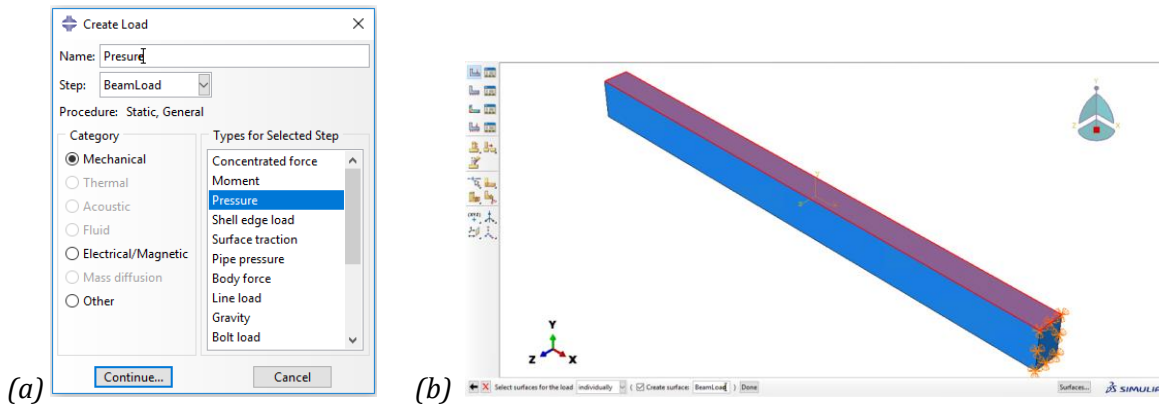

Figure 1-21 – (a) The Create Load dialog box and (b) the prompt area.
1. In the **Model Tree**, double-click **Loads** to create a new load in the model **BEAM**. The **Create Load** dialog box appears, Figure 1-21(a).
3. In the viewport, select the top face of the beam as the surface to which the load will be applied. The desired face is highlighted in Figure 1-21(b). Check the **Create Surface** and